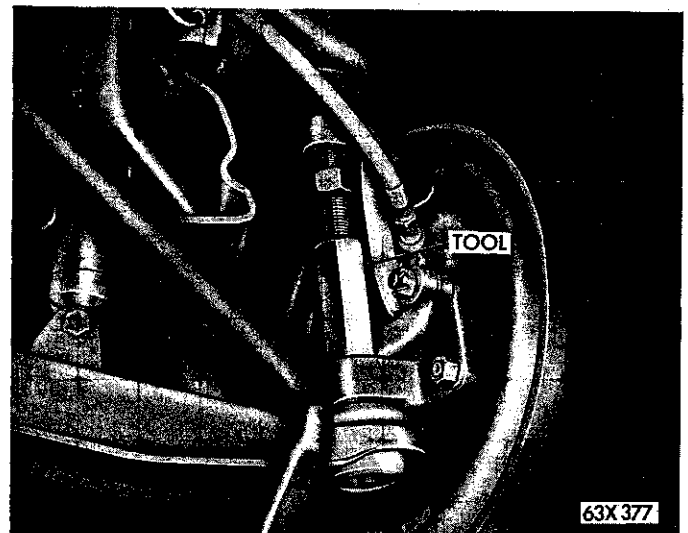
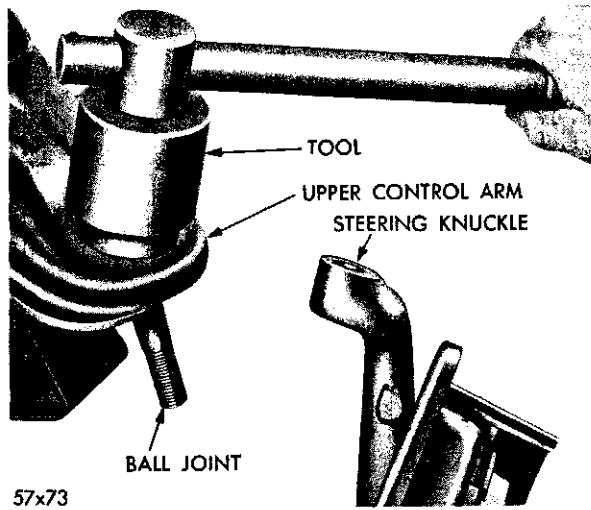

Fig. 6—Removing Upper Ball Joint from Knuckle
Fig. 7—Removing the Ball Joint
(1) Place a jack under the lower control arm as close to the wheel as possible. Raise the wheel off the floor.
(2) Remove the wheel and tire assembly.
(3) Remove the upper and lower ball joint stud nuts. Slide Tool C-3564 down over the lower stud until the tool rests on the steering knuckle. Turn the threaded portion of the tool locking it securely against the upper stud (Fig. 6). Spread the tool enough to place the upper stud under pressure, then strike the steering knuckle sharply with a hammer to loosen the stud. **Do not attempt to force the stud out of the knuckle with the tool alone.**
(4) Remove the tool, then disengage the ball joint from the knuckle.
(5) Using Tool C-3560 for Models VC-1, VC-2 and VC-3 or Tool C-3561 for VY-1 (Fig. 7) unscrew the ball joint from the upper control arm.
(1) Place a jack under the lower control arm as close to the wheel as possible. Raise the jack until the front wheel clears the floor.
(3) Remove the upper and lower ball joint stud nuts. Slide the Tool C-3564 down over the lower stud until the tool rests on the steering knuckle. Turn the threaded portion of the tool locking it securely against the upper stud (Fig. 6). Spread the tool enough